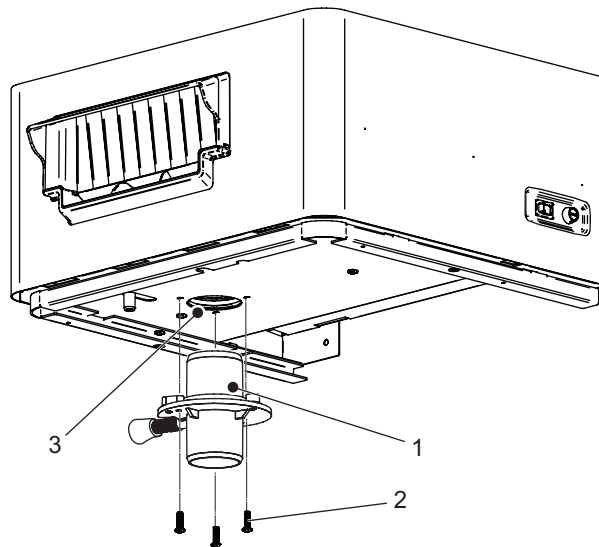

Figure 10: Steam Adapter Installation on Blower Pack
- b. Orient the steam adapter with the blower pack steam inlet, as shown in Figure 10, and push in. The adapter should fit snugly, and form a seal with the O-ring in the blower pack steam inlet.